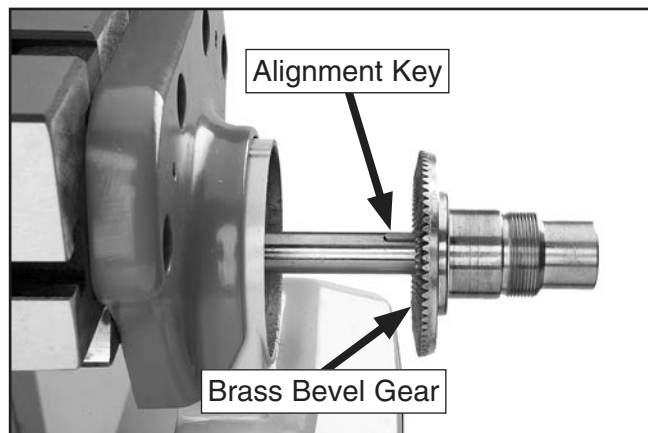

Figure 60. Power feed brass gear and leadscrew alignment key.
4. Remove the brass bevel gear from the leadscrew, then remove the leadscrew alignment key (see **Figure 60**).